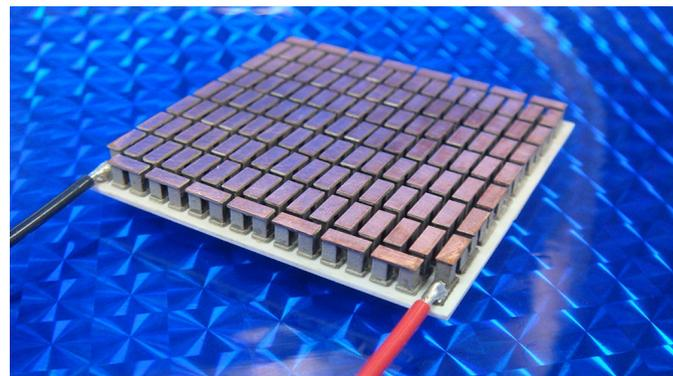
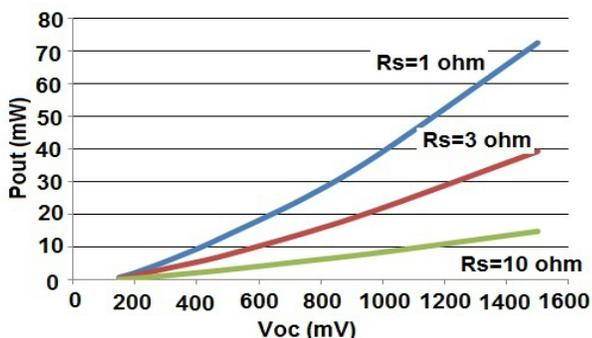

Figure 2 – A 254 Element TE Module (model TXL-127-03L)
Figure 7 – Power Output vs Voc for VB1299 (White)
Thermoelectric (TE) phenomena arise from the intercoupled electrical and thermal currents in a material. A thermoelectric generator is constructed by connecting multiple n-type and p-type thermoelements in electrical series with all elements in thermal parallel between a heat source and a heat sink. A scaffolding is often used on the top and the bottom of a device to lend mechanical support to the thermoelements. Figure 2 depicts a commercially available device with the top scaffolding removed. In a heat pumping application, the TE device is often referred to as a Peltier module or cell. The VB line of bootstrap converters can work with TE devices that have been designed for either generation or heat pumping.
Equation (1) and Figures 5-10 can be used to estimate power and charge current for a given thermoelectric module, a given converter module and a given ΔT . Consider the TXL Group model TXL-127-03L, 254 element thermoelectric module depicted in Figure 2 and having internal resistance $R_s = 6 \Omega$. The elements are made of n-type and p-type bismuth telluride alloys with an approximate Seebeck coefficient of $S = 180 \mu V/C$. For $\Delta T = 6^\circ C$, by equation (1), the open circuit voltage is $V_{oc} = 274 \text{ mV}$. For the VB1299 (white) converter, from Figures 7 and 10, the output power and input voltage corresponding to $V_{oc}=0.274 \text{ V}$ and interpolating for $R_s=6 \Omega$ are determined to be, respectively, 1.9 mW and 160 mV. The charging current delivered to the Li-Ion cell is then $1.9\text{mW}/3.3\text{V} = 580 \mu A$. The input power is the product of input current and V_{in} , so